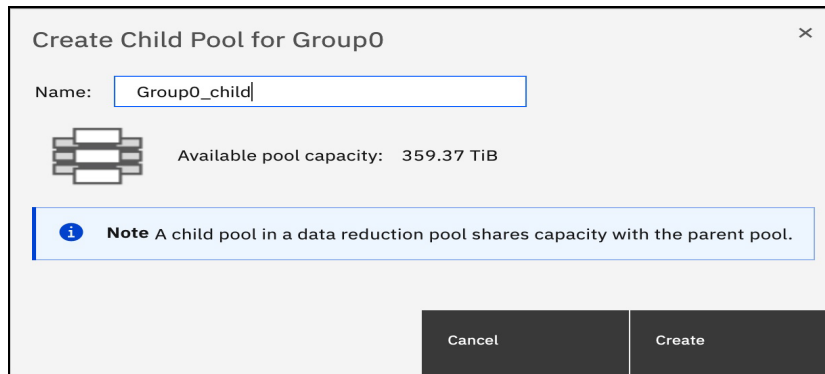

Figure 4-10 Create Child Pool page
- d. Enter a name for the child pool, as shown in Figure 4-10.